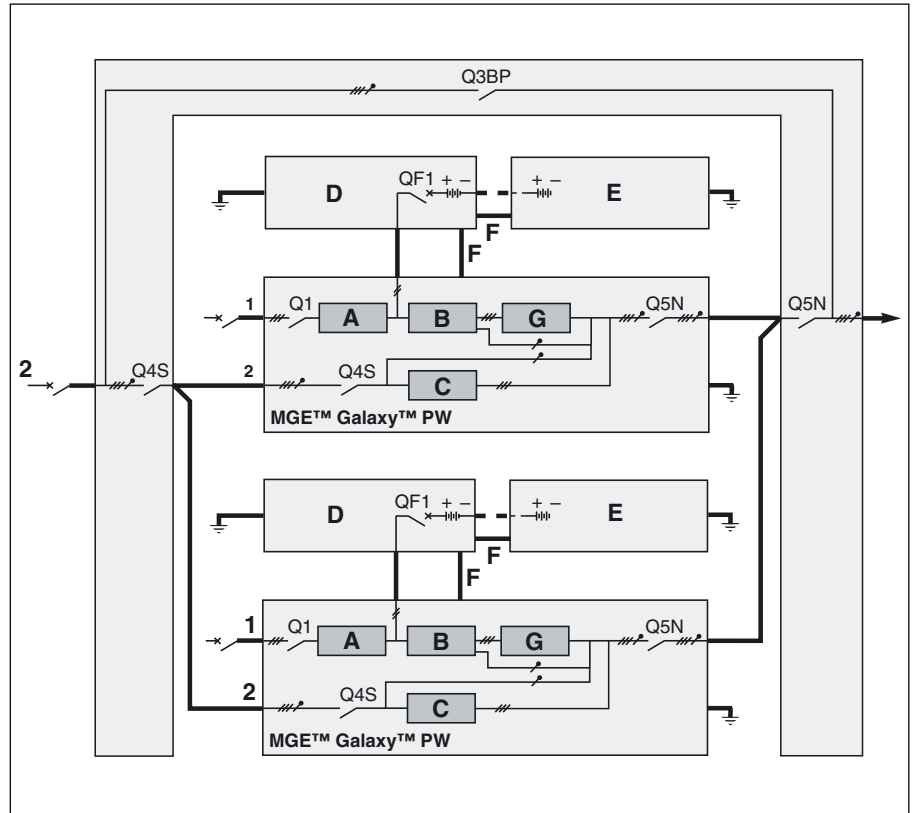

Fig. 10
► see figure 10 for a two parallel **MGE™ Galaxy™ PW** units combined for higher output;